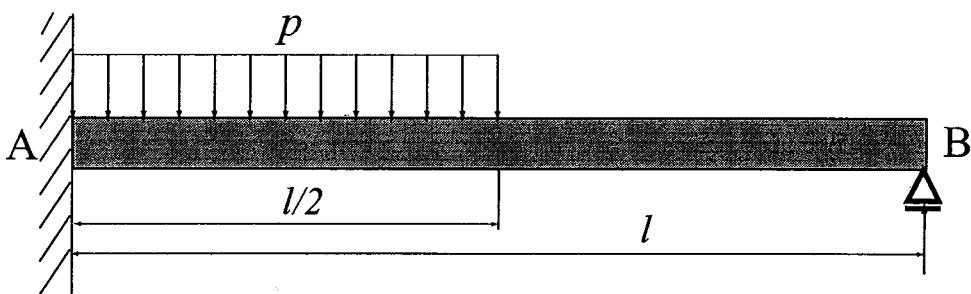

Figure Q3
- Q3.** The beam in Figure Q3 is fixed at A and simply supported at B. If it is subjected to the distributed load p , determine the slope and deflection of the beam in term of x , l , p , E and I . Modulus of elasticity and moment of inertia of the beam are E and I , respectively.